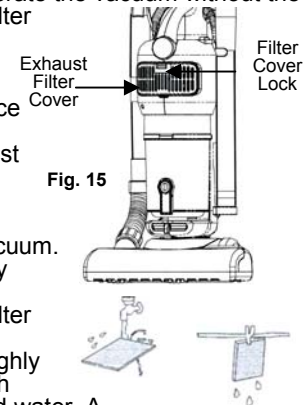

Fig. 15
- To remove the exhaust filter cover, depress the filter cover lock and pull the filter cover out. Remove the filter. (Fig. 15)